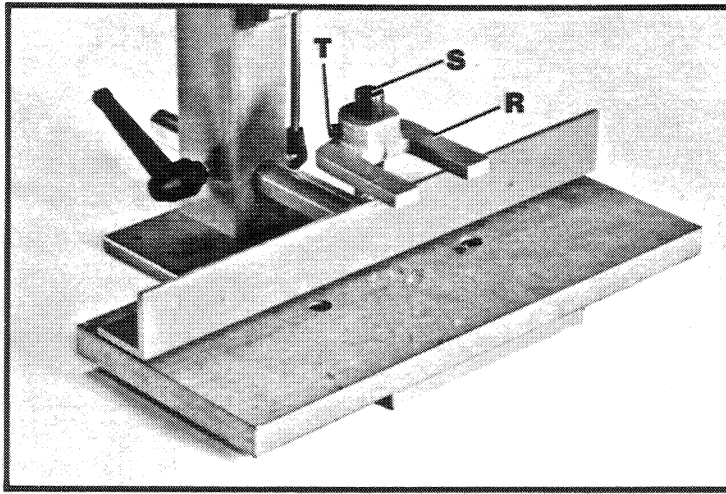

Fig. 11
11. Assemble the holddown (R) Fig. 11, on the vertical post (S) of the fence assembly and tighten set screw (T).